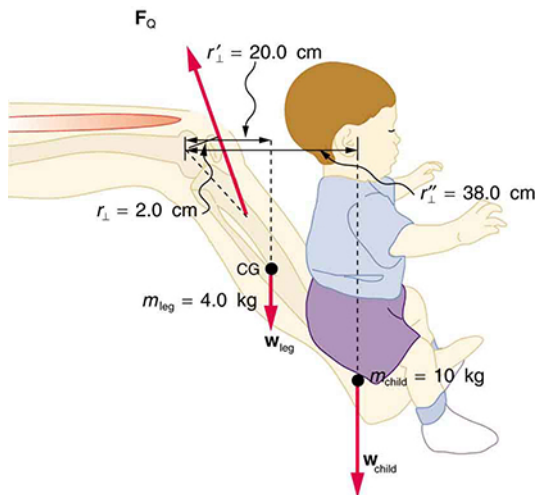

FIGURE 9.41 A child being lifted by a father's lower leg.
34. A father lifts his child as shown in Figure 9.41. What force should the upper leg muscle exert to lift the child at a constant speed?